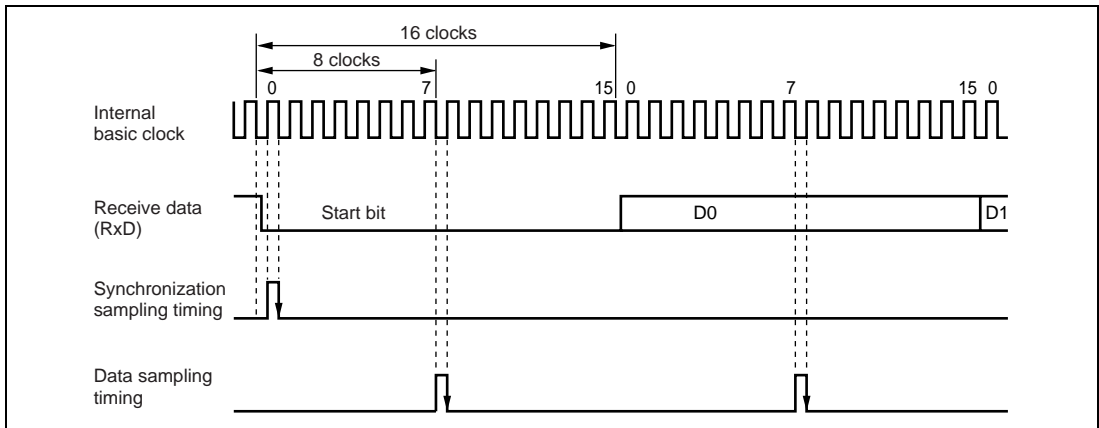

Figure 15.3 Receive Data Sampling Timing in Asynchronous Mode
In asynchronous mode, the SCI operates on a basic clock with a frequency of 16 times the bit rate. In reception, the SCI samples the falling edge of the start bit using the basic clock, and performs internal synchronization. Since receive data is latched internally at the rising edge of the 8th pulse of the basic clock, data is latched at the middle of each bit, as shown in figure 15.3. Thus the reception margin in asynchronous mode is determined by formula (1) below.